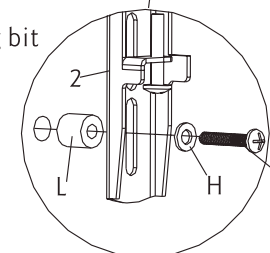

Fig 1b
2. Some displays have curved backs with recessed mounting lands(Fig.a). It will require the use of spacer. For this display, install a 9/16" spacer(L) between display and the bracket. As shown in Fig 1b.